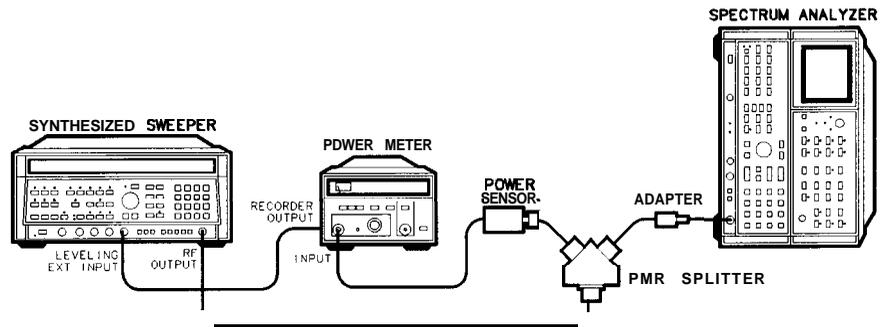

Figure 3-80. Slope Compensation Adjustment Setup
1. Place instrument on right side as show in Figure 3-80, and remove bottom cover.
2. Connect equipment as shown in Figure 3-80 with power splitter connected to the output of the synthesized sweeper with a cable. Connect one arm of the splitter directly to the SIGNAL INPUT of the HP 8568B Spectrum Analyzer, using a Male-to-Male adapter, and the other arm to the power sensor.